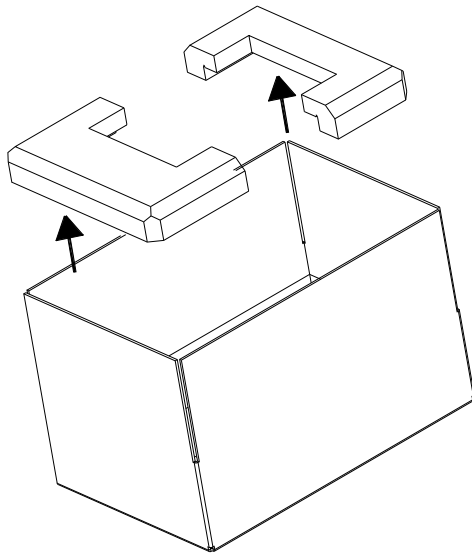

Fig.3-8
2. Lift the foam on the UPS module upward to remove them (Fig.3-8);